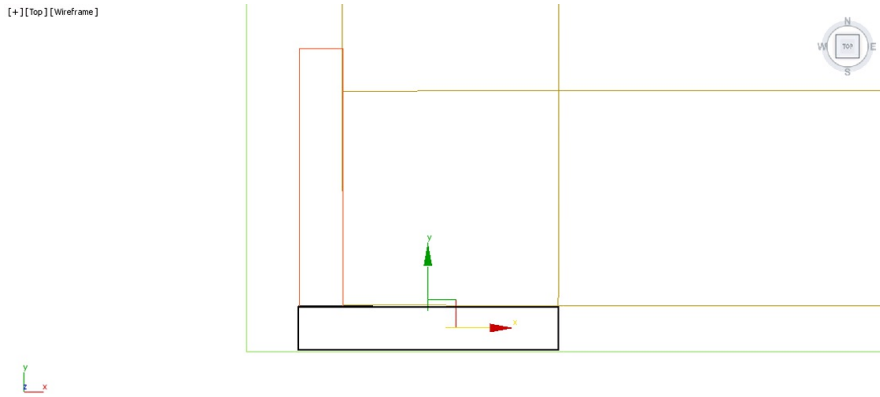

Figure 4-79 The *fc002* geometry in the Top viewport after alignment
26. Choose the **Select and Move** tool and align *fc002* with *wall*, as shown in Figure 4-79.